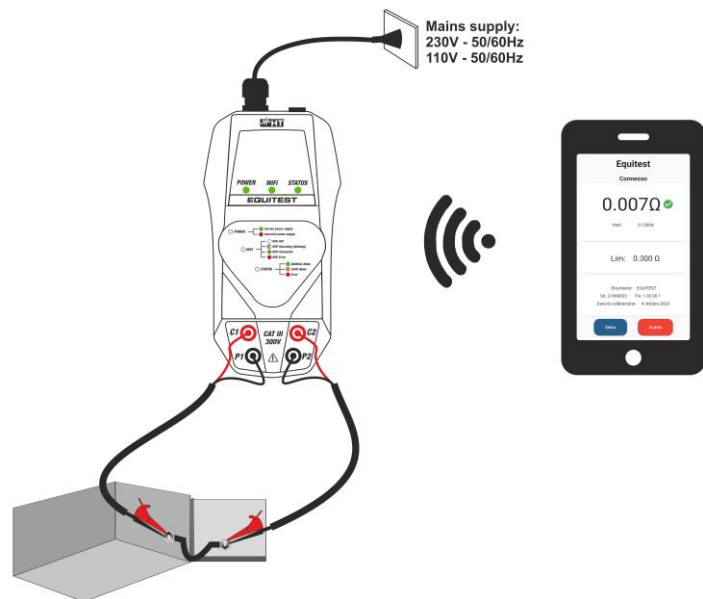

Fig. 4 Use of the instrument with HT Equitest APP
- Connect the alligator clips of the **C7000** cable set to the ends of the object under test (see Fig. 4)
6. Tap the **"Measurement"** button inside the APP to activate the test in **Manual mode** or simply by moving the test terminals if **Automatic mode** is selected. The instrument provides the test current >10A AC and the measurement result is shown within the APP (see Fig.4) with the "✓" icon in case of a passed test or "!" icon in case of a failed test